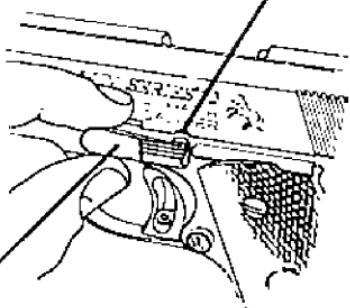

FIGURE 9-
6. Pull slide to rear until lug on slide stop is opposite disassembly notch (See Figure 9) and push rounded end of pin of slide stop (on right of receiver) inward and through receiver to disengage slide stop from slide.
7. Lift out slide stop (See Figure 9).